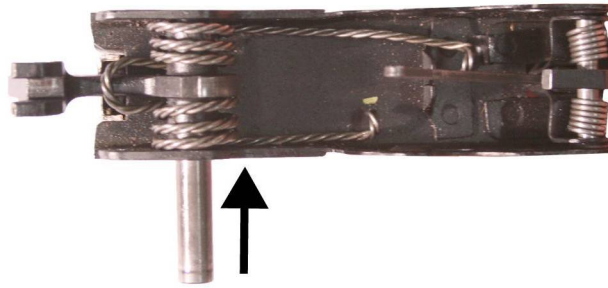

Figure 14. Install the Hammer, Main Spring, and Hammer Pin.
6. Place the hammer and main spring in the trigger housing and install the hammer pin. Refer to Figure 14.